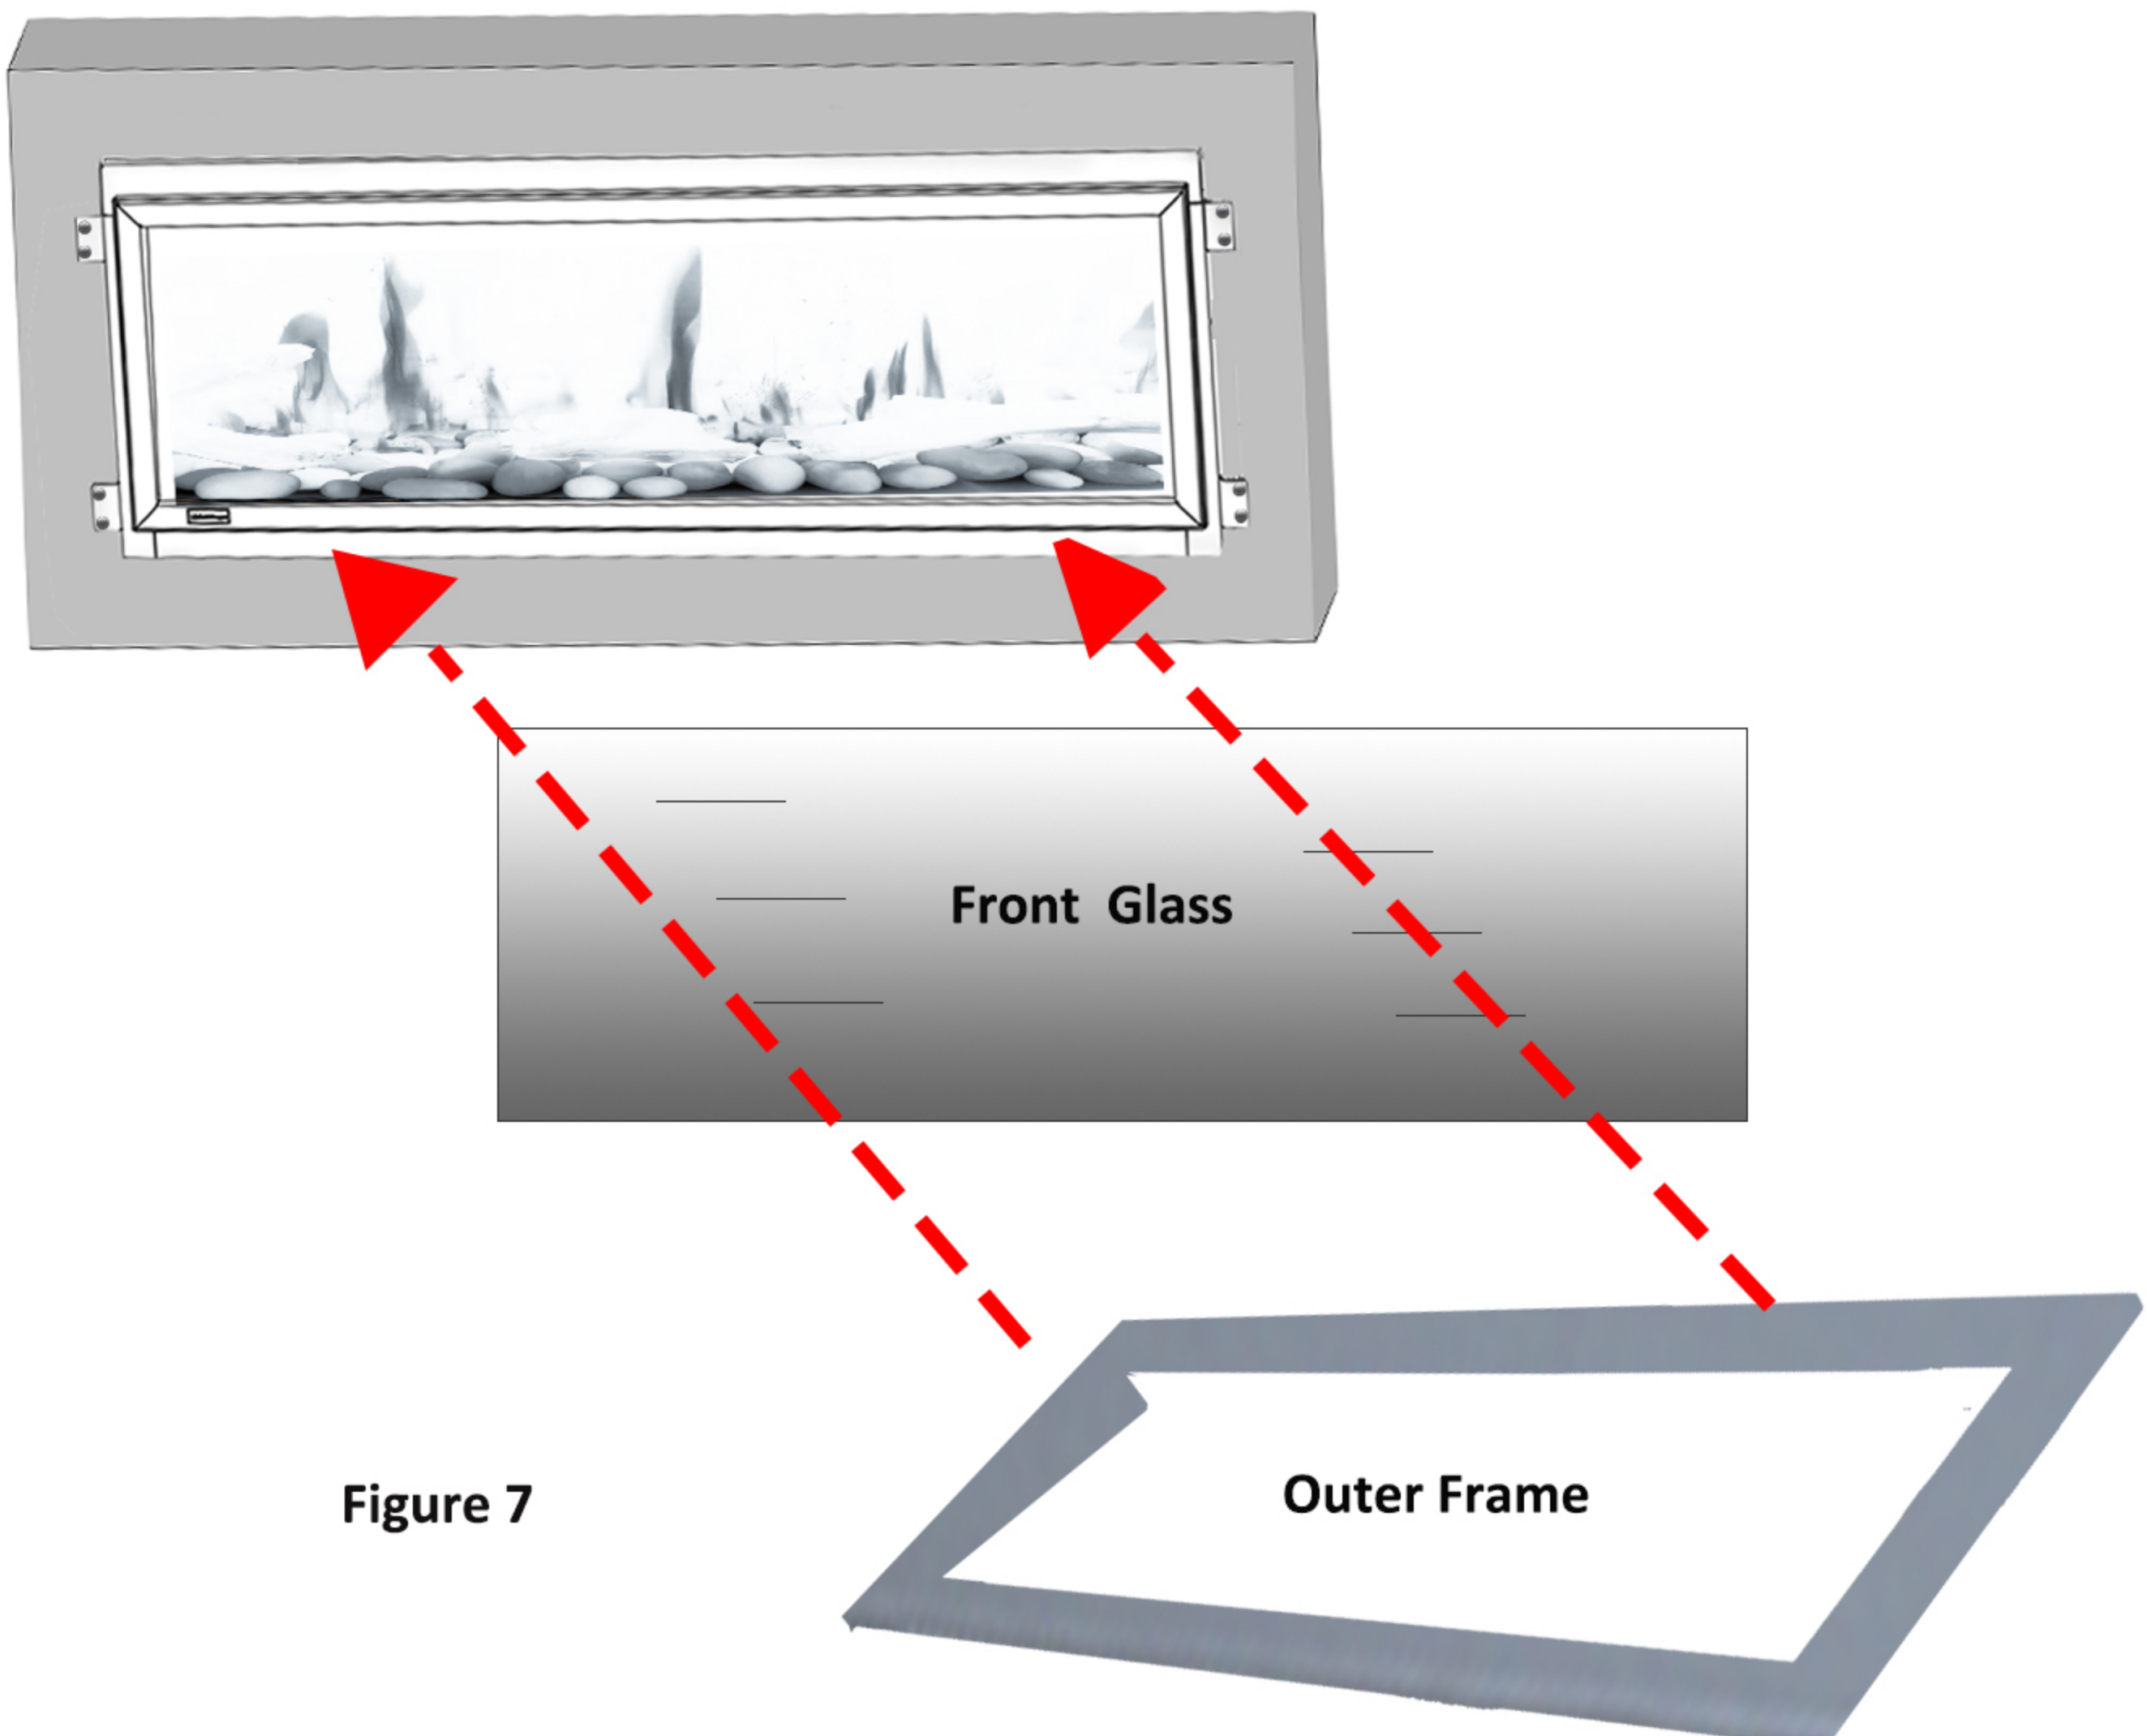

Figure 7
6. When the ember bed decoration is complete. The first operation step is to put the glass back in place, Lock the hinge plate and fix the outer metal frame (see Figure 7). Reinstallation is just the opposite of the disassembly steps above.